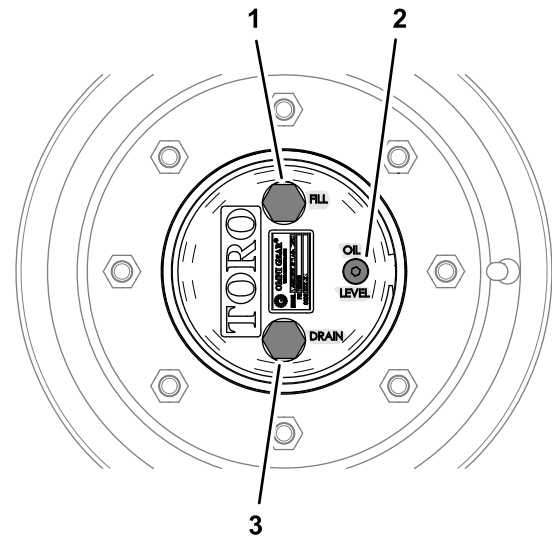

Figure 84
1. With the machine on a level surface, position a wheel so that the fill plug is at the highest (12 o'clock) position and the drain plug is at the lowest (6 o'clock) position (Figure 84).
1. With the machine on a level surface, position a wheel so that the fill plug is at the highest (12 o'clock) position and the drain plug is at the lowest (6 o'clock) position; refer to Figure 84 in Checking the Planetary-Gear-Drive Lubricant (page 64).